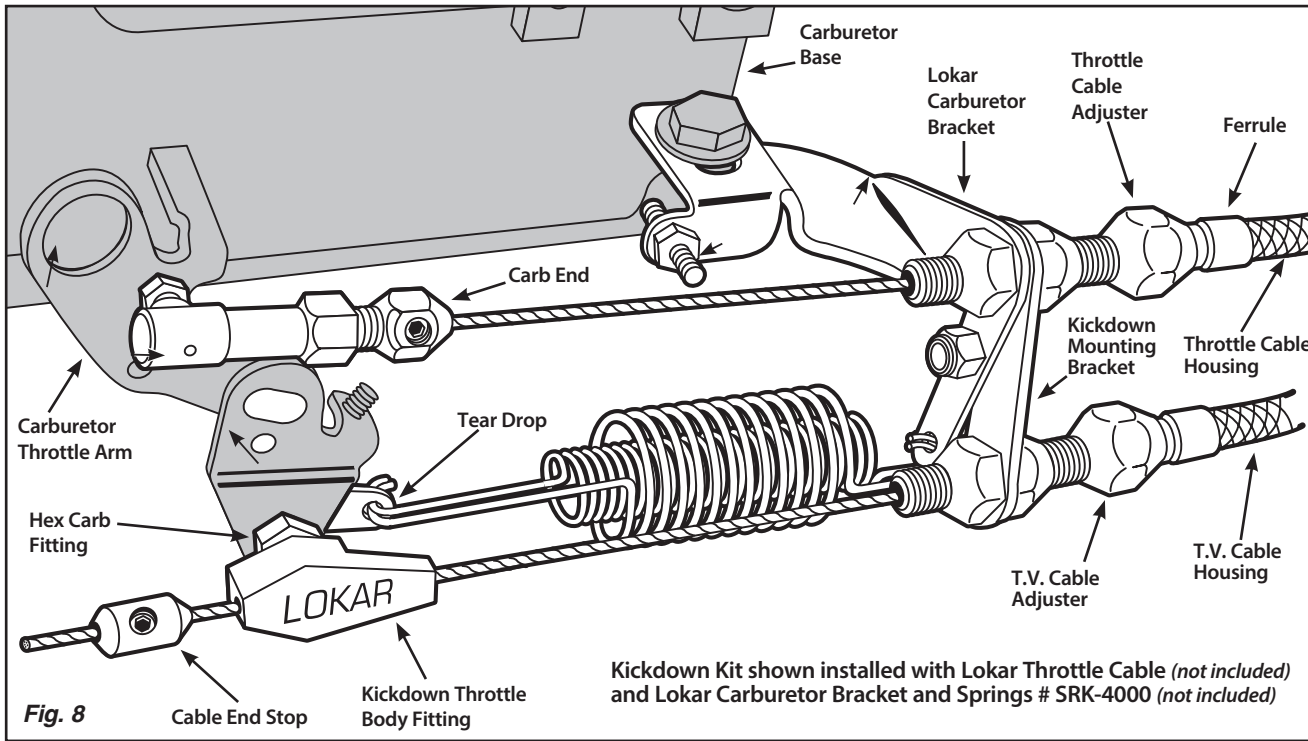

Fig. 8
**Step 9:** The tear drop will be attached to the carburetor throttle arm by the hex carb fitting. Separate the hex carb fitting from the kickdown throttle body fitting as shown in **Fig. 7**. Install the tear drop with the hex carb fitting and the 1/4"-28 nylock jam nut onto the carburetor throttle arm. Hook the springs to the tear drop and tighten the nylock jam nut. **Fig. 8** Then, back the nut off just enough so that the tear drop can rotate freely.